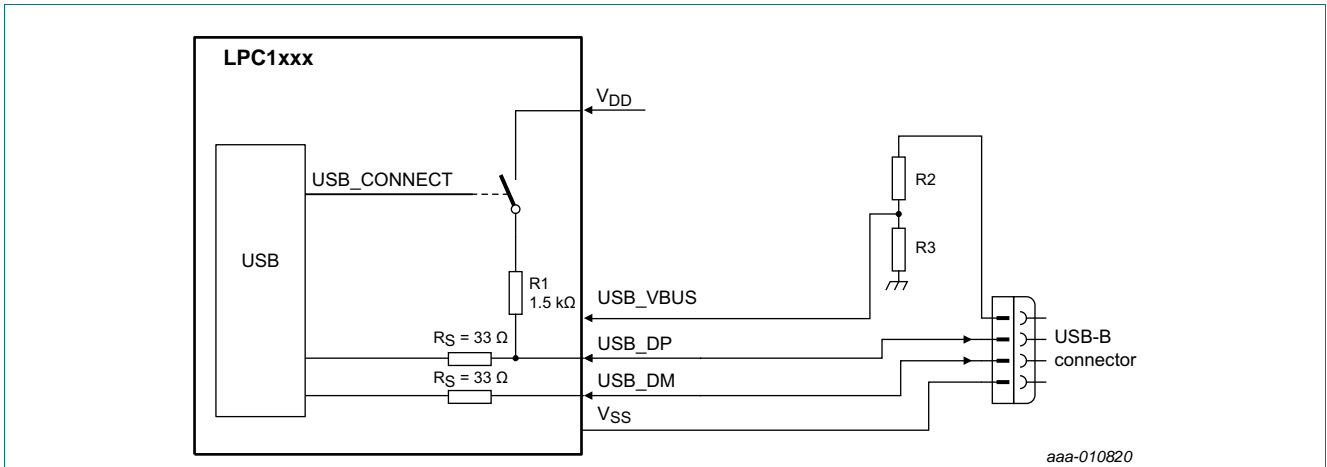
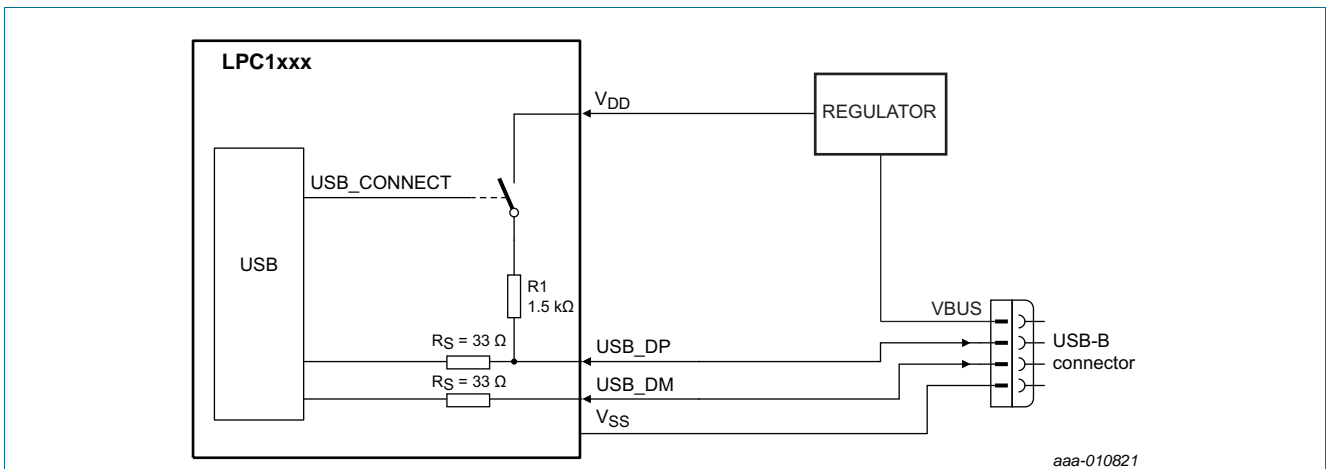

Fig 37. USB interface on a self-powered device where USB\_VBUS = 5 V
Fig 38. USB interface on a bus-powered device
The USB device can be connected to the USB as self-powered device (see Figure 37) or bus-powered device (see Figure 38).
For a bus-powered device, the VBUS signal does not need to be connected to the USB\_VBUS pin (see Figure 38). The USB\_CONNECT function can additionally be connected as shown in Figure 37 to prevent the USB from timing out when there is a significant delay between power-up and handling USB traffic.
**Remark:** When a bus-powered circuit as shown in Figure 38 is used or, for a self-powered device, when the VBUS pin is not connected, configure the PIO0\_3/USB\_VBUS pin for GPIO (PIO0\_3) in the IOCON block. This ties the VBUS signal HIGH internally.